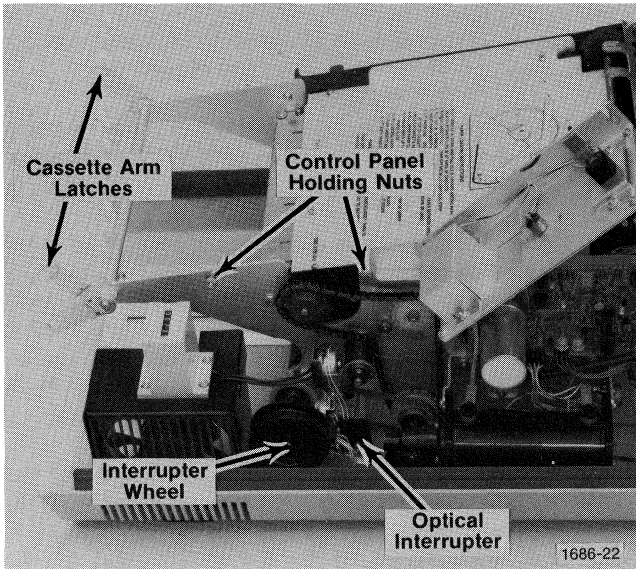

Fig. 3-11. Location of control panel holding nuts. Cassette arm latches and optical interrupter (control panel shown in raised position).
7. Swing the cover open. Swing the cassette holder out and remove the paper cassette. The cassette holder is connected to the unit by cassette arm latches located at the first mechanical junction from the handle knobs. Unlatch these latches and remove the cassette holder. Loosen the two nuts which hold the control panel (Fig. 3-11). Then lift the bracket and swing it out of the way.